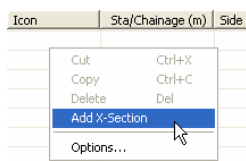

Figure 9-72. Adding X-Section Using Right Panel of the Road tab
- In the right panel, right-click and click **Add X-Section** (Figure 9-72).